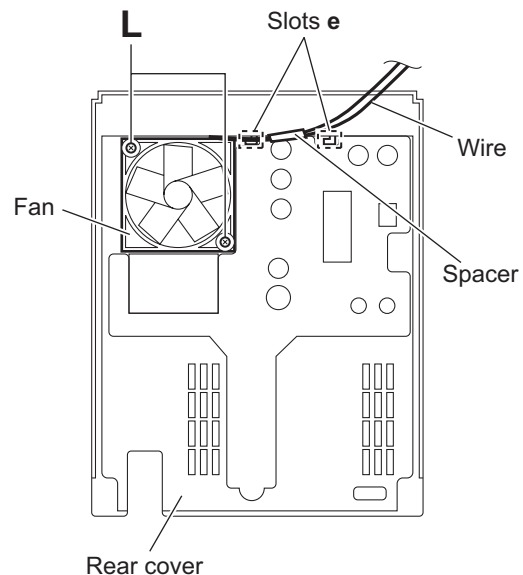

Fig.13
3.1.5 Removing the fan (See Fig.13)